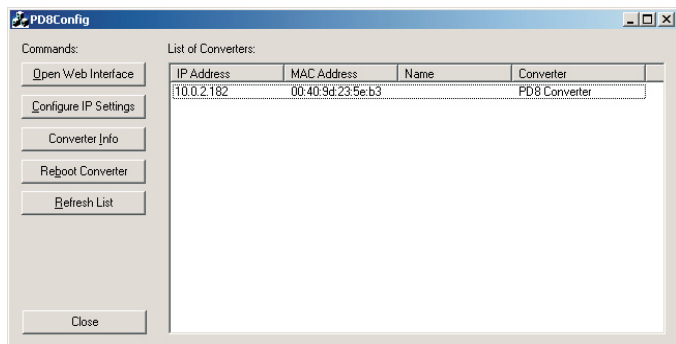

Fig. 9 Correctly configured PD8 converter
- After pushing the „Apply” key in, one must wait some time till the „Operation carried out successfully” message appears. After confirming the message, one must click from the main window the „Refresh list” command. After a while, the list of accessible converters will be actualised and appears in accordance with the fig.9.